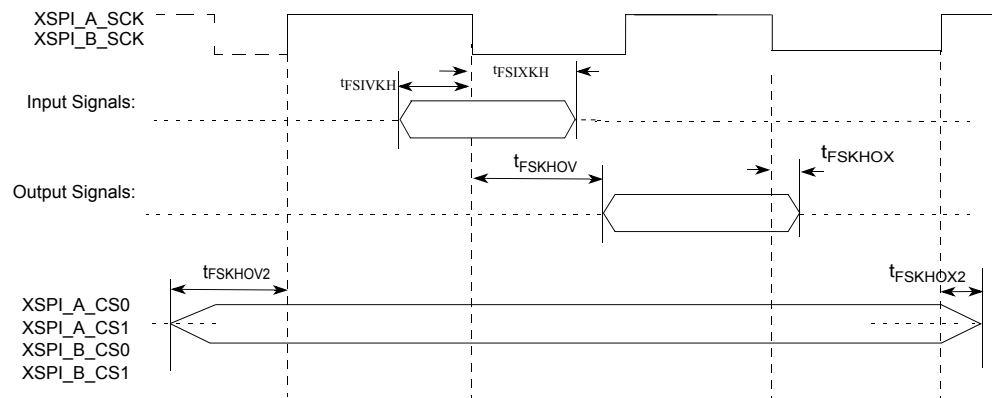

Figure 39. FlexSPI SDR mode AC timing diagram
4. See Figure 39.
1. Refer the FLSHxyCR1 QorIQ LX2160ARM for more details, where x: A or B, y: 1 or 2 2. See Figure 37 . 3. See Figure 38 . 4. See Figure 39 . 5. T = FlexSPI clock period